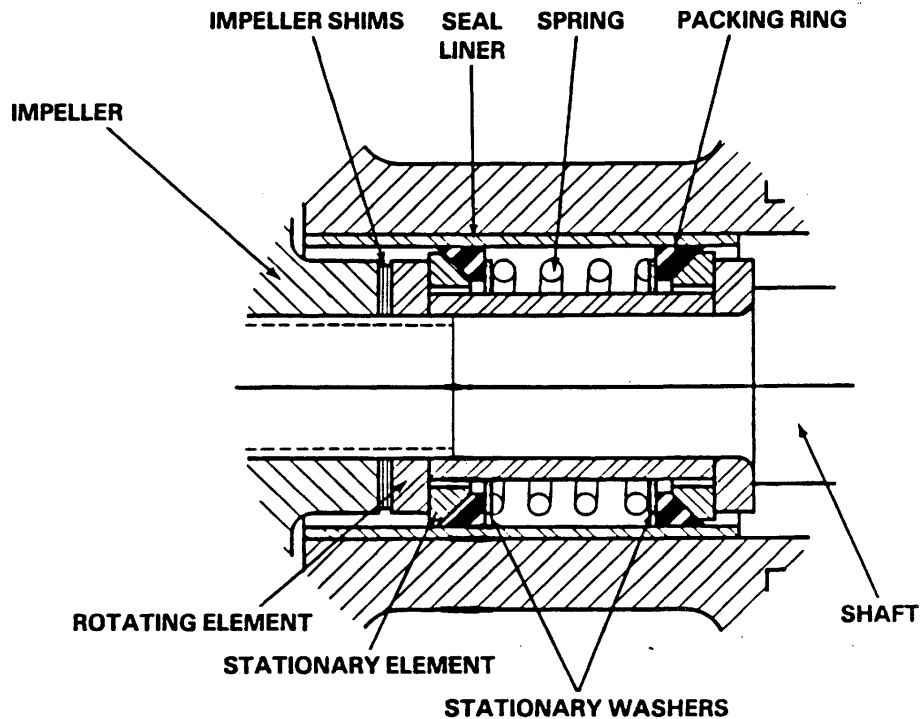

Figure 3. GS625 Seal Assembly
To ease installation of the seal, lubricate the packing rings and seal liner (11) with water or a very **small** amount of oil, and apply a drop of light lubricating oil on the finished faces. Assemble the seal as follows, (see Figure 3).